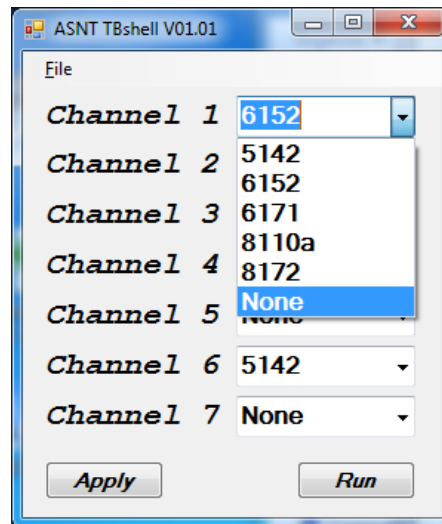

Fig. 9. TBshell dashboard Window
2. The default TBshell dashboard window is shown in Fig. 9. It has seven drop-down lists, one for each ASNTu2s channel, buttons "Apply" and "Run", and the drop-down menu "File".